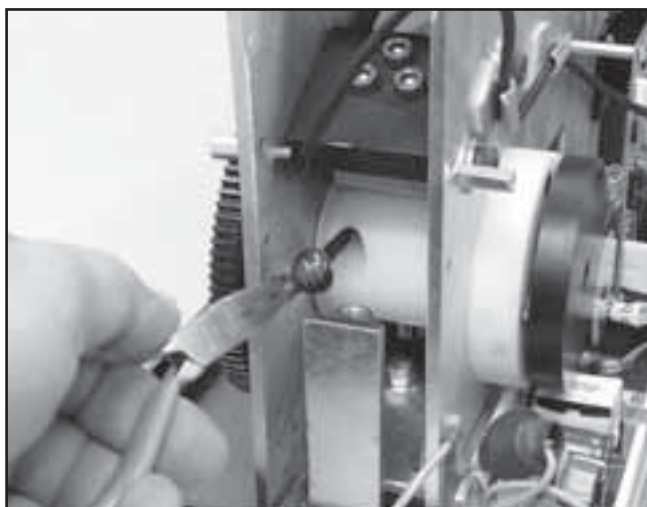

FIGURE 6.31
9. Remove the Traction Cord Knuckle. Refer to page 41, step 11. Using the Needle Nose Pliers, pull the Traction Cord Knot from the Traction Cord Spool and completely pull the Traction Cord out of unit. See Figure 6.31.